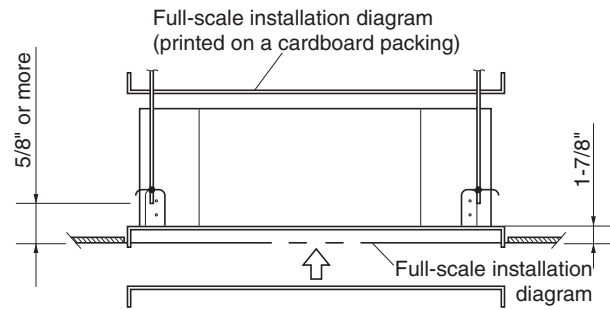
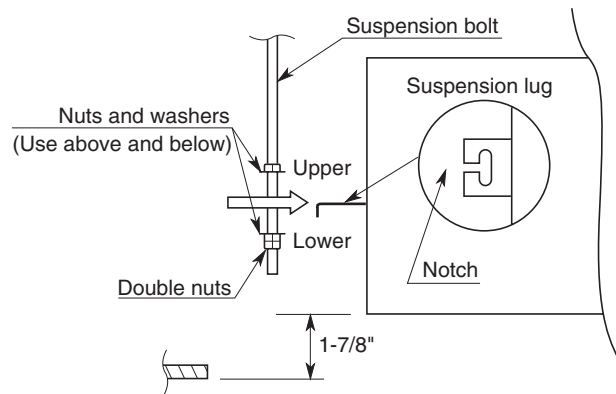

Fig. 1-49
Fig. 1-50
- (1) When placing the unit inside the ceiling, determine the pitch of the suspension bolts using the supplied full-scale installation diagram. (Fig. 1-49) The size of the opening for the indoor unit can be confirmed by attaching the full-scale installation diagram beneath the unit. (Fig. 1-49) Tubing and wiring must be laid inside the ceiling when suspending the unit. If the ceiling is already constructed, lay the tubing and wiring into position for connection to the unit before placing the unit inside the ceiling.
- (2) The length of each suspension bolt must be appropriate for a distance between the bottom of the bolt and the bottom of the ceiling of 5/8" or more as shown in Fig. 1-49.
- (3) Thread the 2 hexagonal nuts (field supply) and washers onto the 4 suspension bolts as shown in Fig. 1-50. Use 2 sets of nuts and washers (upper and lower), so that the unit will not fall off the suspension lugs.
- (4) Remove the protective cardboard used to protect the fan parts during transport.
- (5) Adjust the distance between the unit and surface of the ceiling. (1-7/8") (Fig. 1-49)